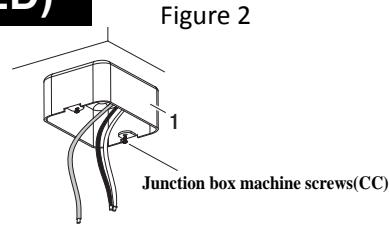

Figure 2
1. Install the two screws(CC) into the junction box(1).(Figure2)